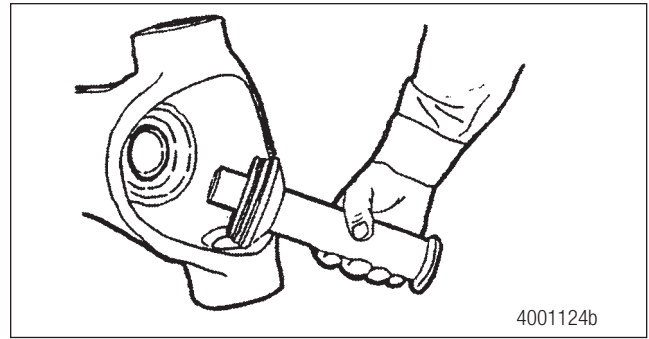

Figure 11.6
5. Use the axle seal installation tool (part number 3256-J-1050) to install the seals into the housing. See Axle Shaft Seal Driver (3256-J-1050) on page 70. Figure 11.6.